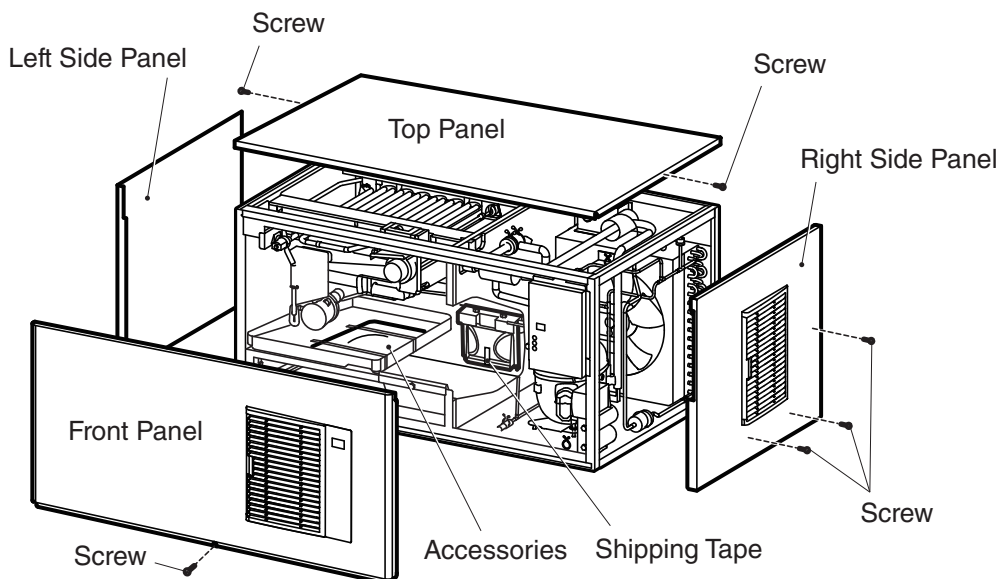

Fig. 1
See Fig. 1
- 5) Remove the protective plastic film from the panels. If the unit is exposed to the sun or to heat, remove the film after the unit cools. **NOTICE! Do not use the side frame to lift the icemaker. See Fig. 1. Lift the icemaker from the base.**
- 6) Remove the package containing the accessories. See Fig. 1.
- 7) Remove the shipping tape holding the bin control switch. See Fig. 1.